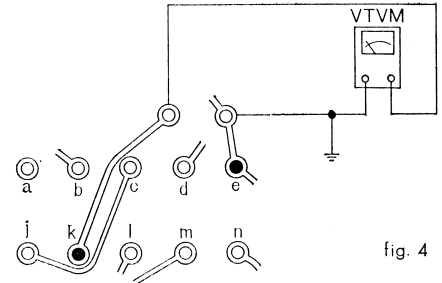

fig. 4
1. Connect VTVM across the resistor R37 10 ohm. or between "E" and "K" contacts of record-play switch SW1. See fig. 4